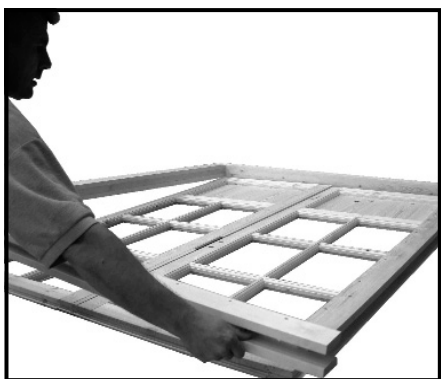

Fig C2
7. Close the hinges and lay the frame assembly over the doors (fig C2).